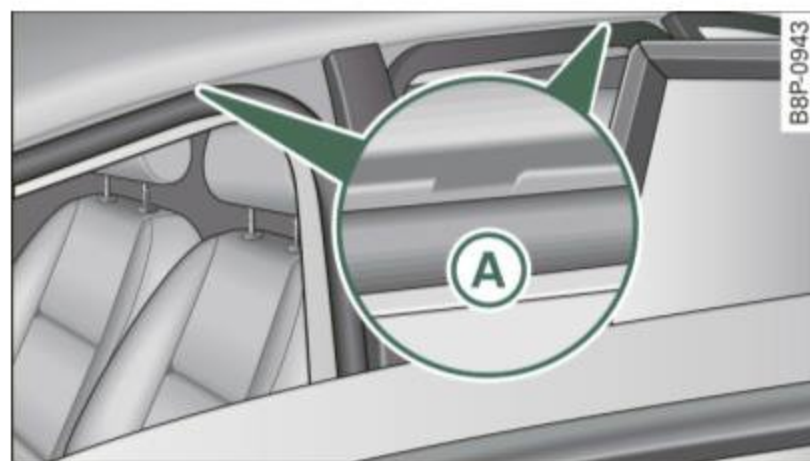
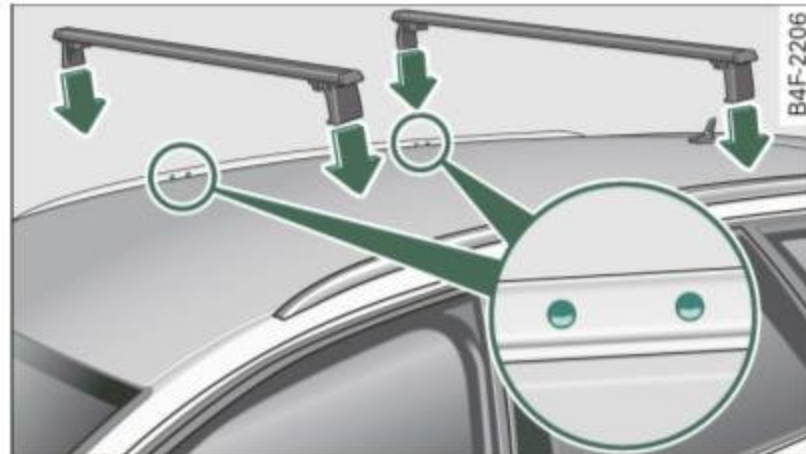

Fig. 112 Attachment points for roof rack
Fig. 113 Roof rails: front and rear mounting locations
- **Only mount the system between the markings shown in ⇒ fig. 112 or ⇒ page 115, fig. 113.**
The attachment points ⇒ page 114, fig. 112 (A) can only be seen with the door open.
- Center the front of the roof rack in the two stamped marks at the front of the roof ⇒ page 114, fig. 112 (A), ⇒ ⚠.
- Place the rear of the roof rack in the two stamped marks at the rear of the roof ⇒ page 114, fig. 112 (A), ⇒ ⚠.
Mount the front and rear cross bars between the punched markings on the inside of the roof railings ⇒ fig. 113 -arrows-.